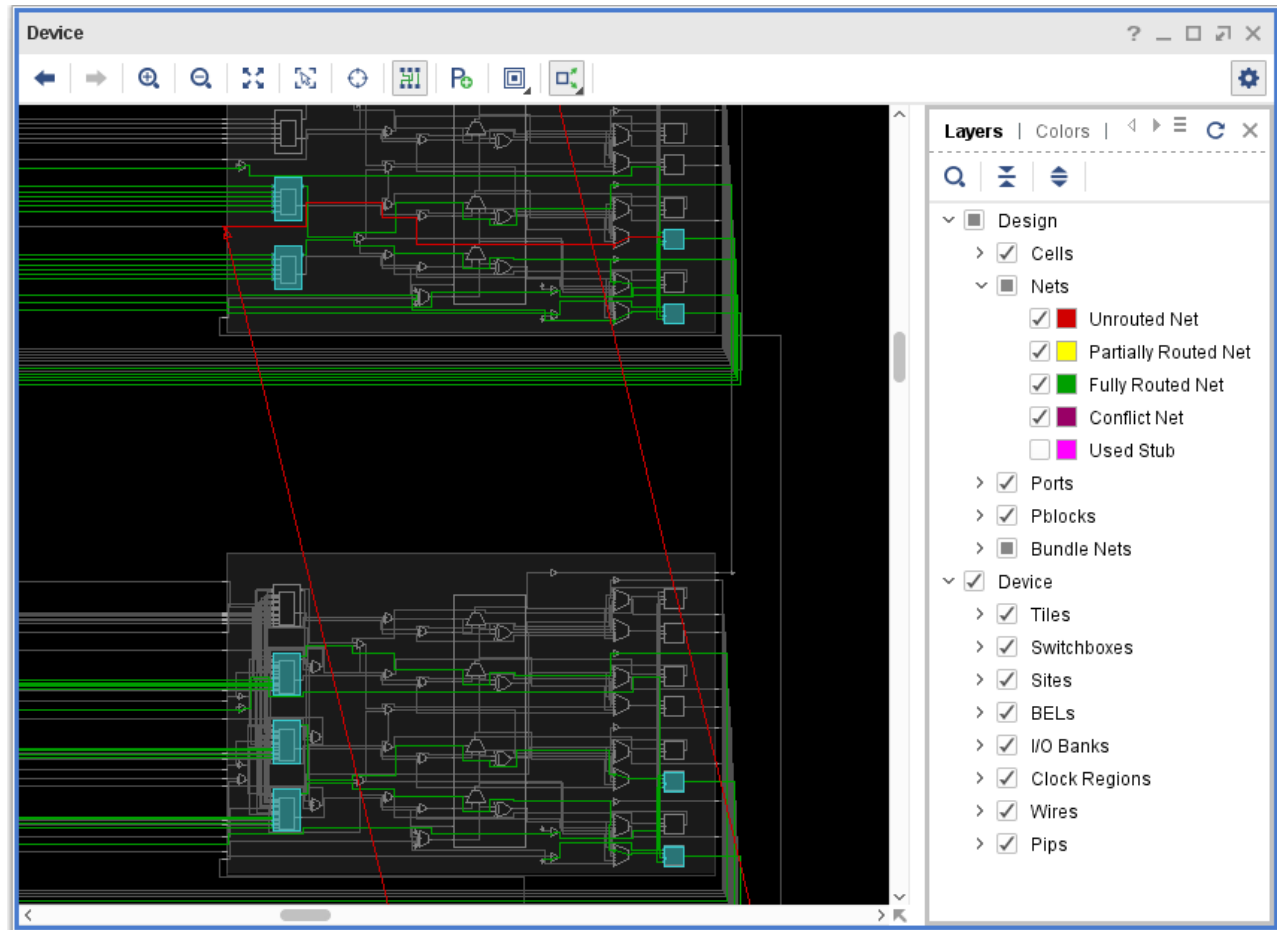

Figure 3-13: Device Options Layers
3. Enable the Layers for **Unrouted Net** and **Partially Routed Net** in the Device Options Layers view, shown in Figure 3-13.